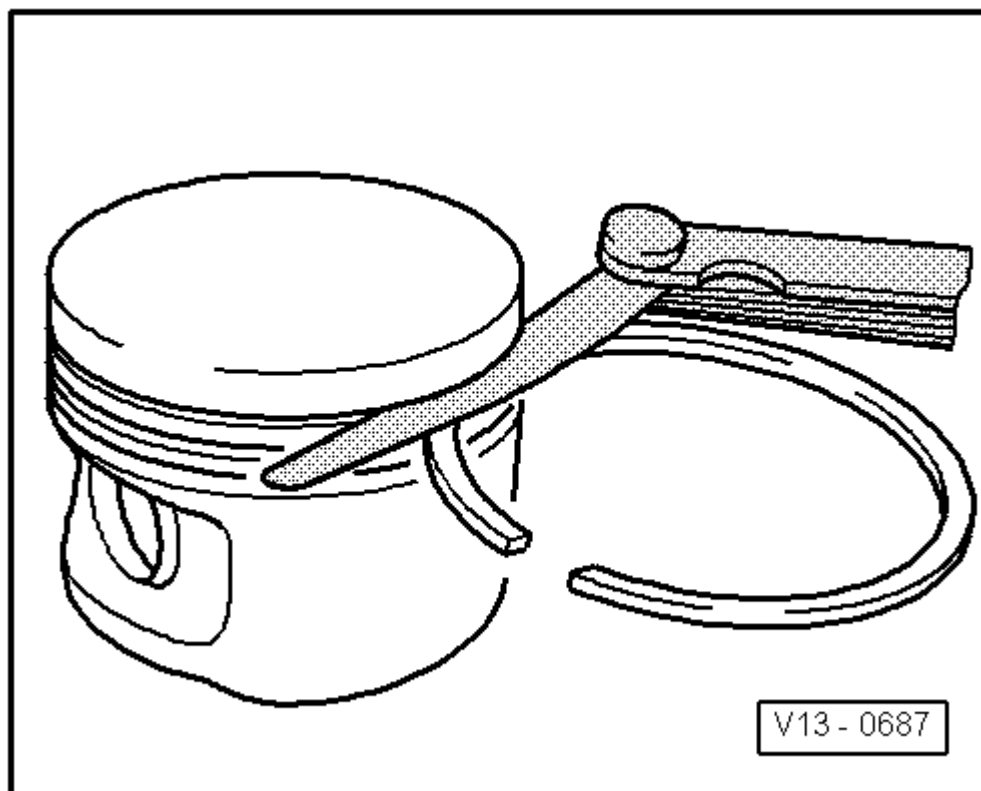

Fig. 12: Identifying Check Of Piston Ring Gap
- Checking the piston ring groove clearance. Refer to **Fig. 12**.